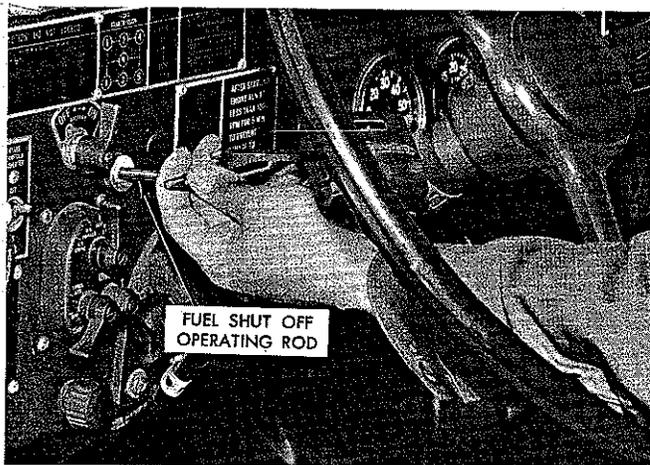

Figure 51
- (2) Pull engine fuel shut-off out to maximum position, Figure 51.